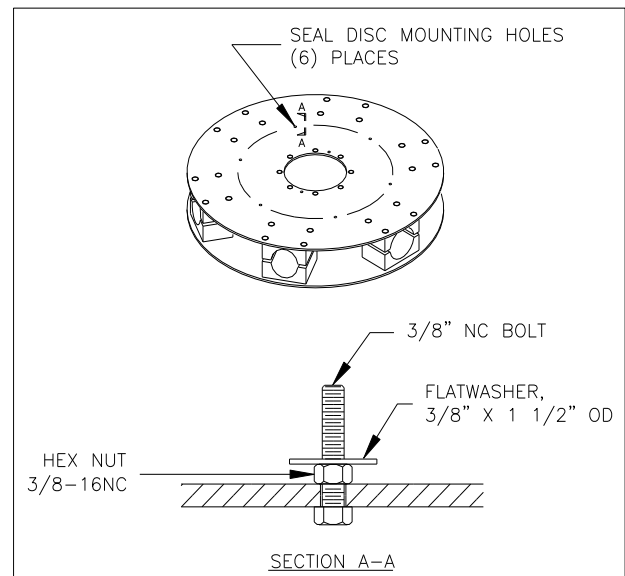

Figure 7a
Install 3/8" NC bolts at six (6) places on top hub plate (See Figure 7a & 7b). Threaded portion of bolts must be pointing up to mount seal disc. Install lock washer, nut, and flat washer on each bolt. Tighten 3/8" NC nuts to 15 ft-lb (lubricated) and 20 ft-lb (dry).